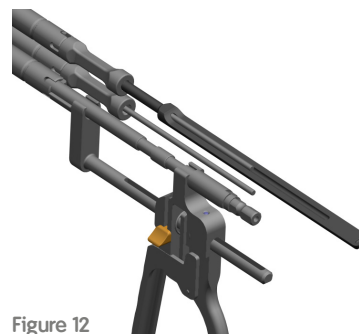

Figure 12
16. Measure for drill depth by reading the calibrations on the 2.8mm Guide Pin against the 2.8mm Guide Pin Insert or use the Proximal Screw Depth Gauge of desired superior screw hole (Figure 12).